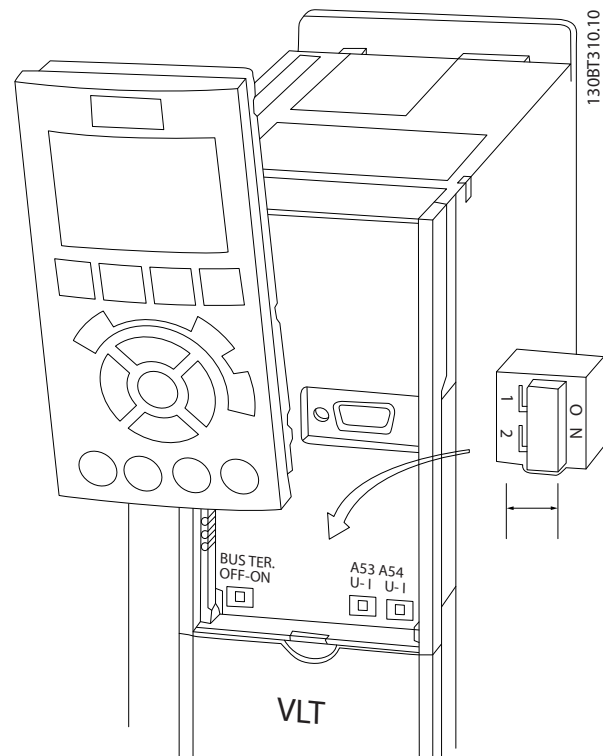

Figure 2.21 Location of Terminals 53 and 54 Switches and Bus Termination Switch
- The switches are accessible when the LCP has been removed (see *Figure 2.21*).